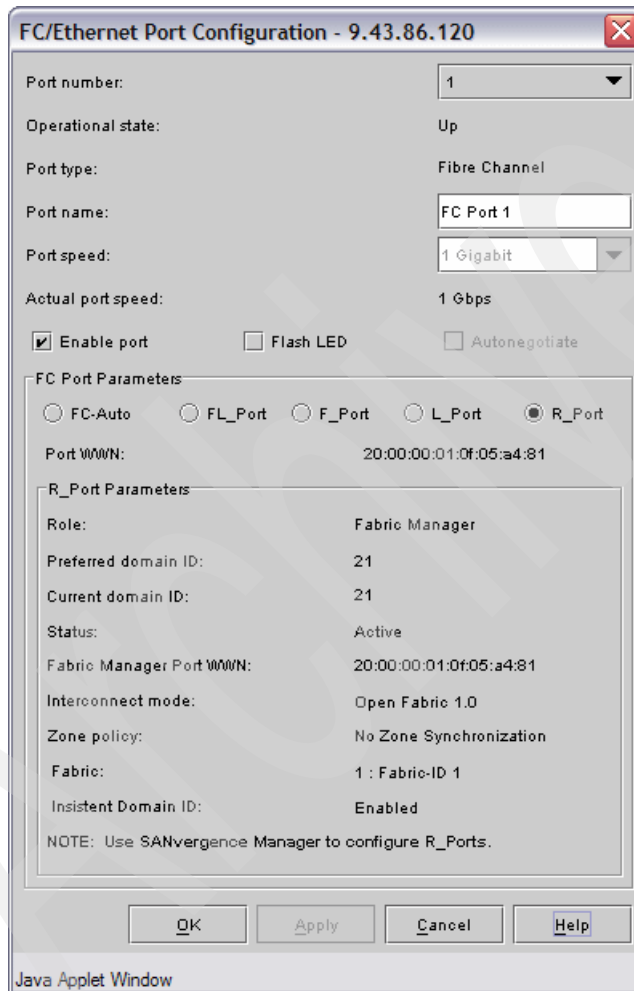

Figure 17-53 R\_Port online
10. After the reset completes, open the FC/Ethernet Port Configuration window to confirm the changes, as shown in Figure 17-53.